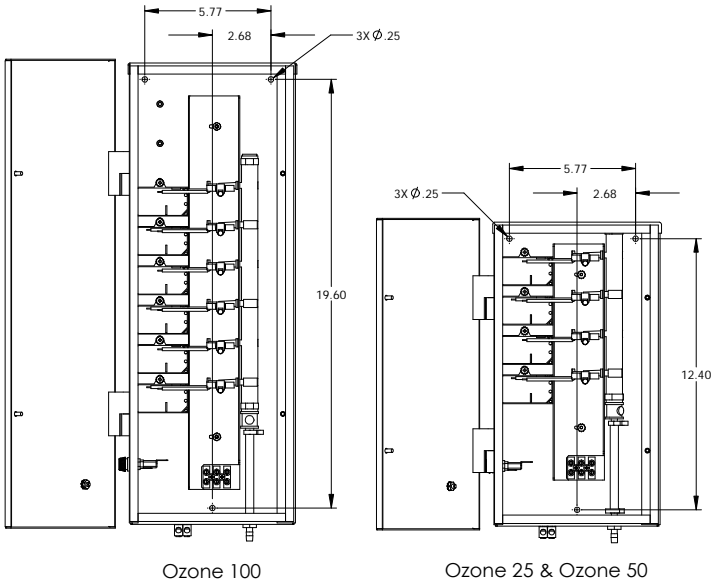

Figure 1: Mounting Hole Dimensions
- A pressure wire connector is provided on the outside of the unit, marked "BONDING LUGS". Connect a minimum No. 6 AWG (13.3 mm²) solid bonding conductor between this point and any metal equipment, metal enclosures of electrical equipment, metal water pipes, or conduit within five (5) feet (1.5m) of the unit or as needed to comply with local requirements.
- Install at least 5 feet (1.5 meters) from wall of pool using nonmetallic tubing. Install ozone generator no less than one (1) foot above maximum water level to prevent water from contacting electrical equipment. Install in accordance with the installation instructions.
- The DEL Ozone generator must be installed in an outdoor location, or indoors in a forced air ventilated room, and installed so that the orientation is exactly as shown in Figure 1. Install to provide water drainage of generator to protect electrical components.
1. Open the Enclosure Door and locate the three mounting holes on the back wall of the Enclosure. There will be two holes located near the top on the left and right and one located in the center near the bottom. Refer to Figure 1 for clarification.